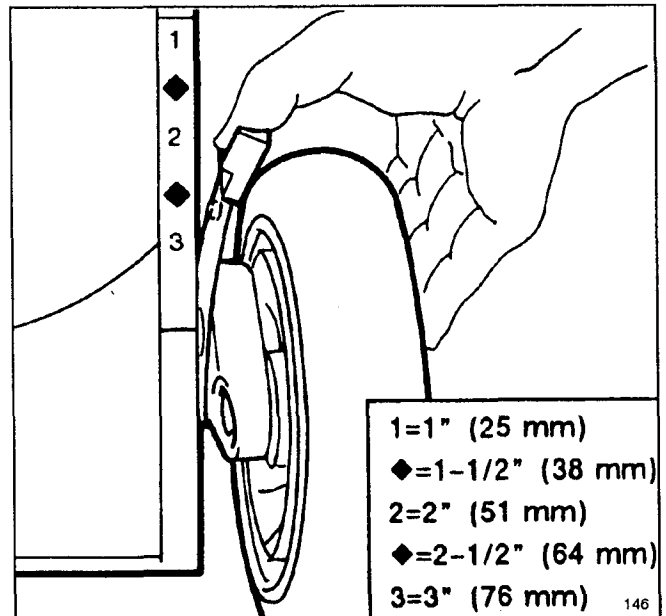

Figure 12
2. For easier adjustment, lift housing up so wheel is off ground. **Do not place hands under deck to lift housing.** Squeeze adjusting lever toward wheel and move to desired setting (Fig. 12). Ensure pin on adjusting lever engages notch in housing. Adjust all wheels to the same setting.